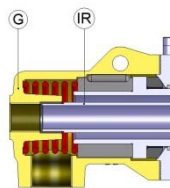
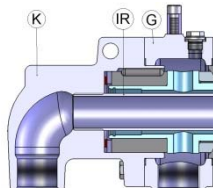

Figure 16
Figure 17
5.2.1 Design 2 (Fig. 16) or X2 (Fig. 17)